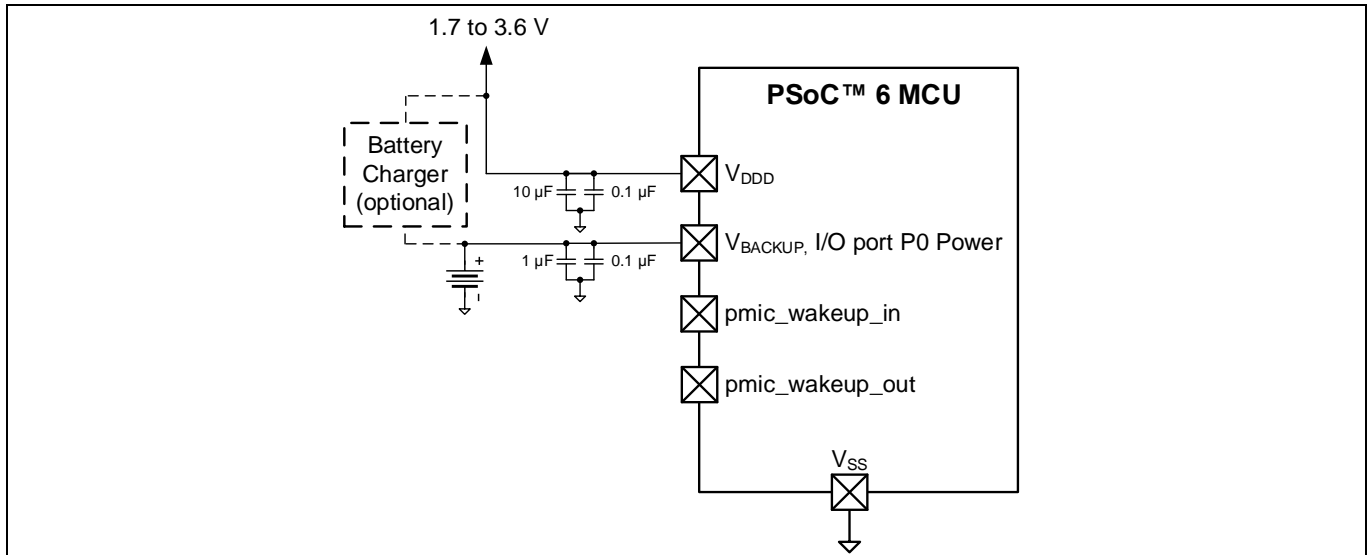

Figure 16 Backup domain battery connection
- V_{BACKUP} powered by battery** – Figure 16 demonstrates a battery-powered V_{BACKUP} . When a battery supplies V_{BACKUP} , it is important to NOT use the supercapacitor charge circuit because it provides no battery safety mechanisms. If the battery is rechargeable, an external board-level recharge circuit can be provided for the battery-specific charge requirements.